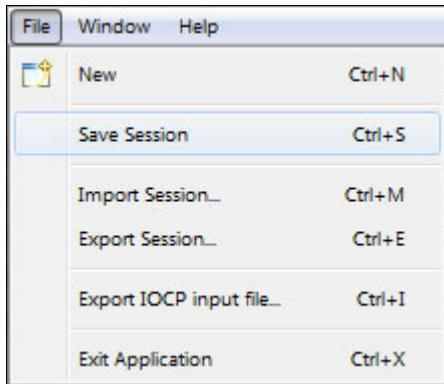

Figure 4-50 Save session
3. Select **File → Save Session** (Figure 4-50).